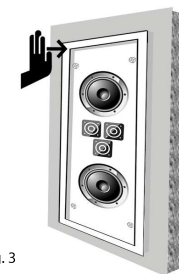

Fig. 3
- 6) Push the speaker assembly into the top section of the opening allowing the top ends of the rails to slide behind the top of the wall. Lift the bottom edge of the speaker until the frame is FLUSH with the wall on all four sides (See Fig. 3)